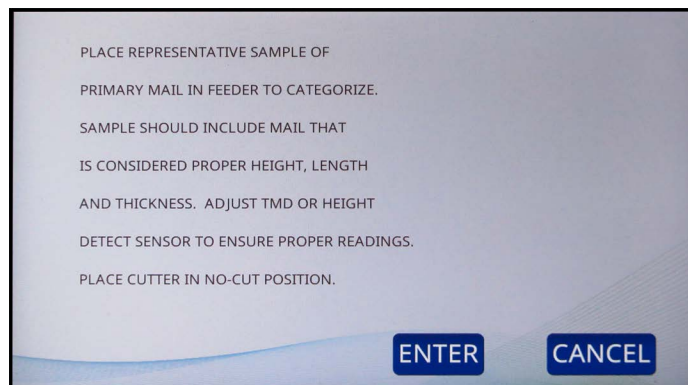

Figure 6-23: Sort Wizard prompt
7. Next you will be prompted to place a representation of your primary mail onto the feeder, set the TMD and height sensor positions, and place the cutter in the no cut position (Figure 6-23). This primary sample run will capture the values selected for your sort scheme. The sample quantity of your primary mail should be at least 10-20 pieces. Press **ENTER** to continue, and **RUN** to feed the sample mail.